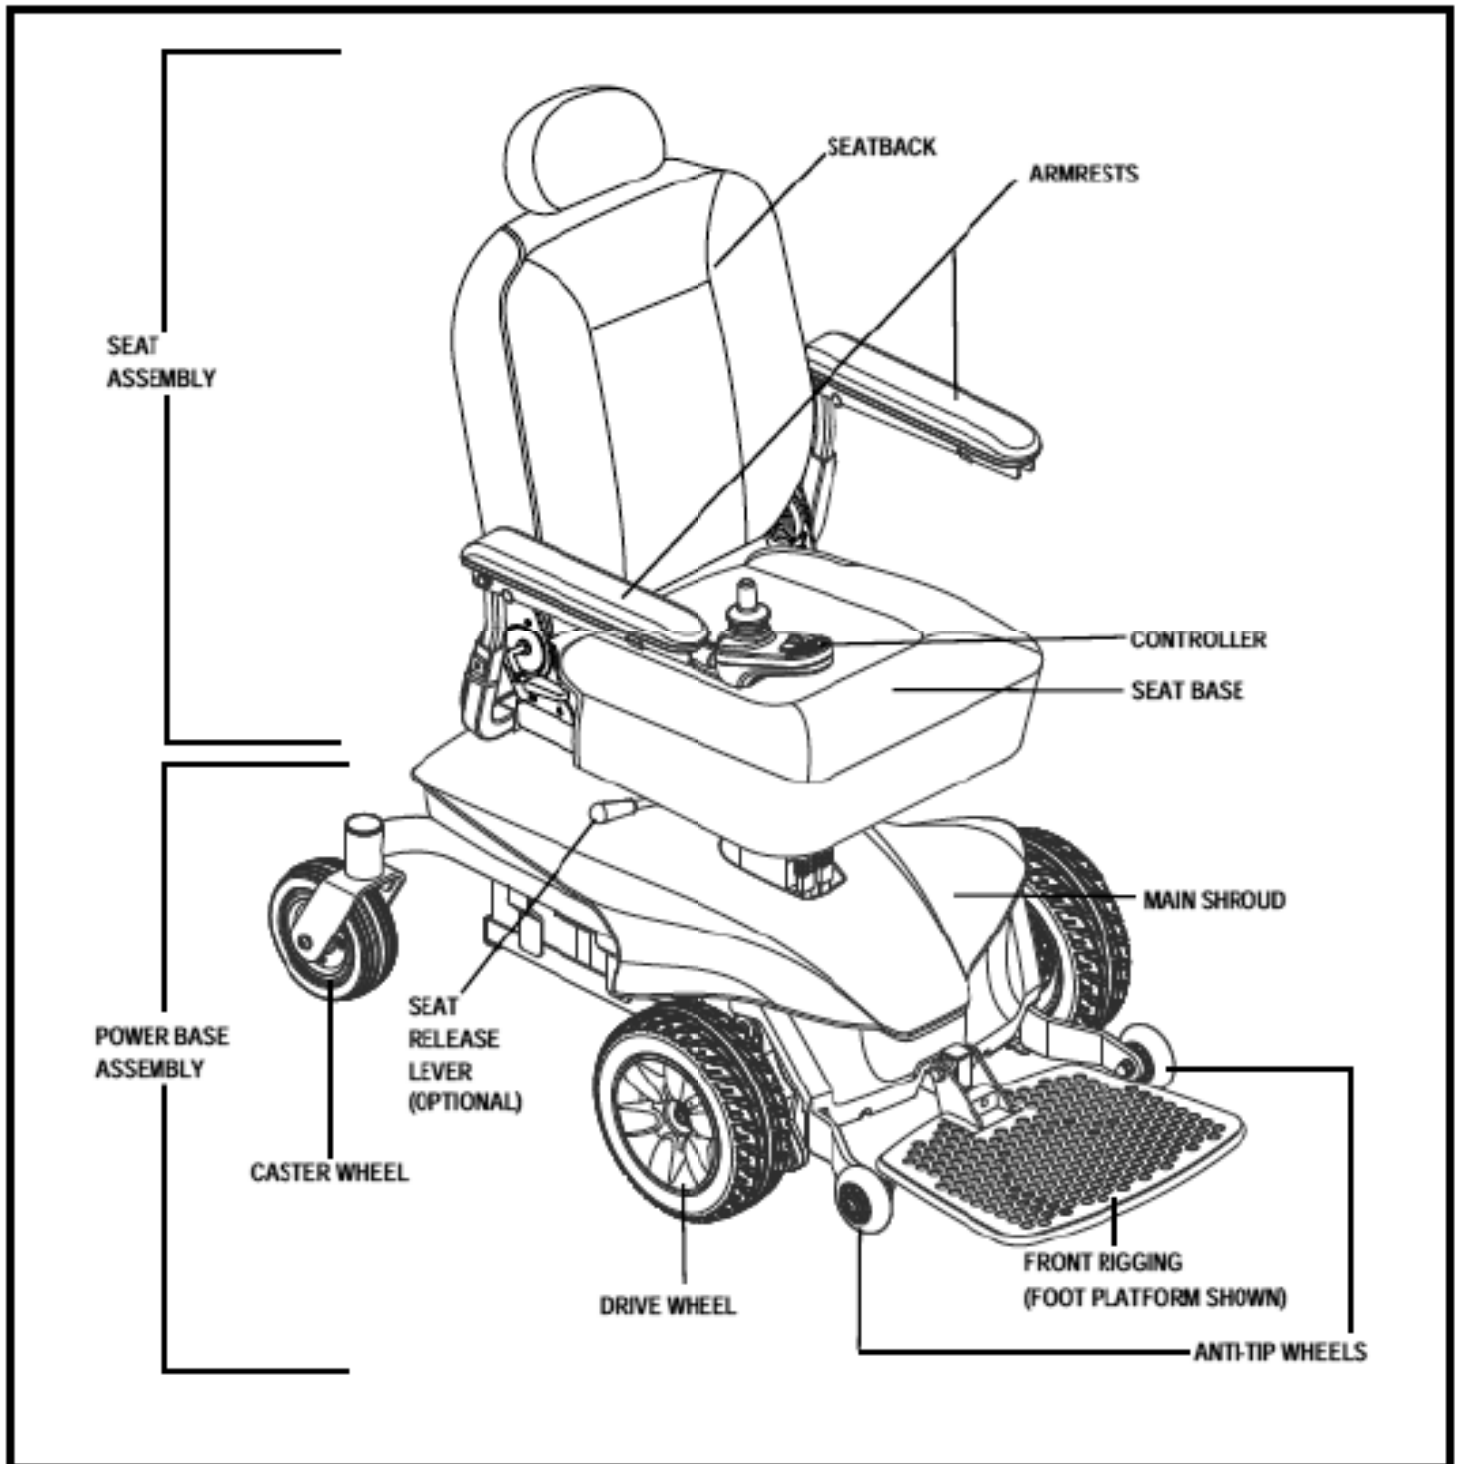

Figure 5. The Jazzy Elite ES Power Chair
The Jazzy Elite ES Power Chair has two main assemblies: the seat assembly and the power base assembly. See figure 5. Typically, the seat assembly includes the armrests, seatback, and seat base. The power base assembly includes two motor/brake assemblies, two drive wheels, two rear caster wheels, two front anti-tip wheels, two batteries, and wiring harnesses.
4. Disengage the seat release lever, if equipped. See figure 5.
NOTE: Your power chair may be equipped with an optional seat release lever. To rotate the seat, use the seat release lever located under the seat. See figure 5.